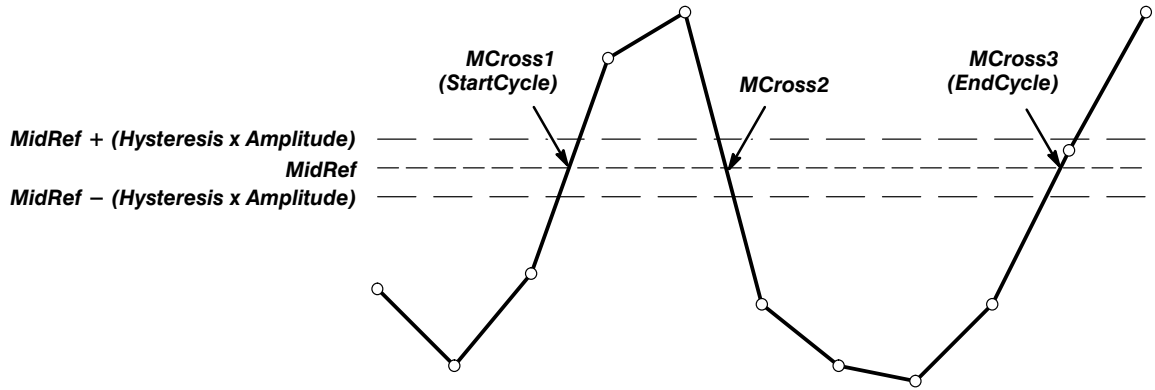

Figure C-1: MCross Calculations
**MCross1, MCross2, and MCross3**—refer to the first, second, and third *MidRef* cross times, respectively. See Figure C-1.